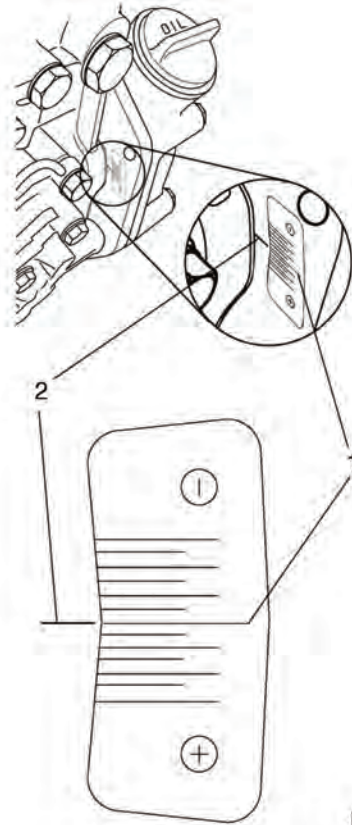

Figure 264
- Reinstall the timing grid sticker, provided with the new fuel injection pump, onto the back of the gear case / front plate (Figure 264). Align the "standard mark" (1, Figure 264) with the reference mark (2, Figure 264) made on the gear case during disassembly.
- Calculate the difference between the timing index numbers (1, Figure 264) of the fuel injection pump that you removed and the replacement fuel injection pump. See Calculation Example below.